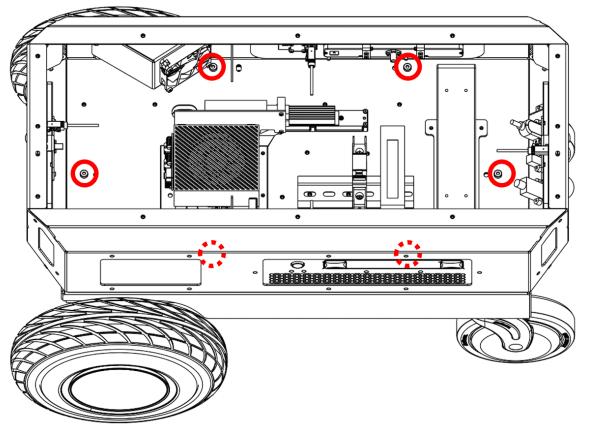

Figure 4
4. Use a 5mm hex wrench to remove the six M6 screws that secure the main enclosure as shown in Figure 4.